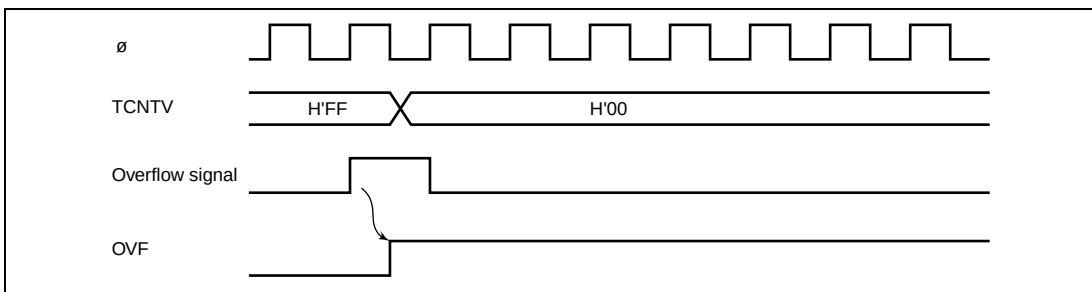

Figure 10-4 OVF Set Timing
2. When TCNTV overflows (changes from H'FF to H'00), the overflow flag (OVF) in TCRV0 will be set. The timing at this time is shown in figure 10-4. An interrupt request is sent to the CPU when OVIE in TCRV0 is 1.